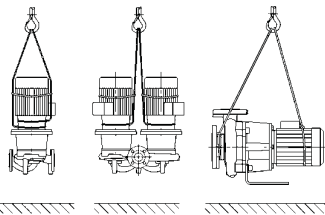

Fig. 4: Attaching the pump
- The transport eyes on the motor are only for guiding while bearing the load (Fig. 4).